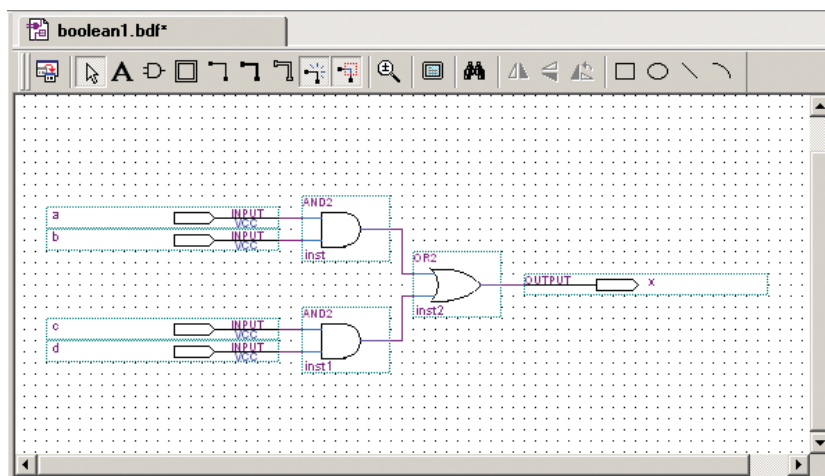

Figure 26 The wired *bdf* file.
- We will now make the circuit connections. As you move the mouse pointer close to the end point of any symbol input or output, the pointer automatically becomes a *cross-hair*. This is called the *Smart Drawing Tool*. Press and hold the left mouse button as you drag a connection line from the *a-input* symbol to the input of the first AND gate. Repeat for all of the connections so that the *bdf* file looks like that shown in Figure 26.